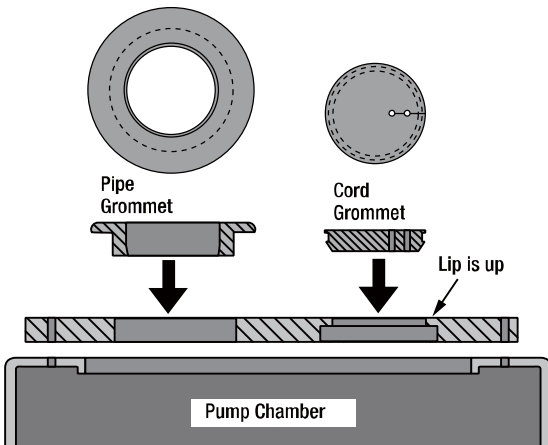

Figure 3: Cross-section of pump chamber lid and seals showing correct orientation of seals.
6. Place the pipe grommet in the 3 in. hole in the pump chamber lid; this is the discharge seal. See Figure 3 for correct orientation.
- F. Insert the cords into the split cord grommet (see Repair Parts, Key No. 3), making sure that the cord grommet is right side up (see Figure 3) and outside the pump chamber. Leave yourself some slack in the cord.